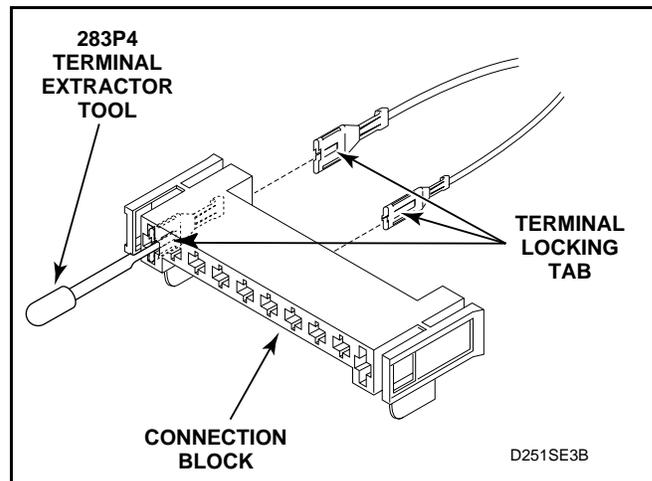

Figure 24
- (1.) Insert the tool into the block on the back of the terminal being removed. See *Figure 24*.
- (2.) Apply tool pressure to compress the terminal locking tab on terminal and force the terminal and wire out back side of connection block. See *Figure 24*.